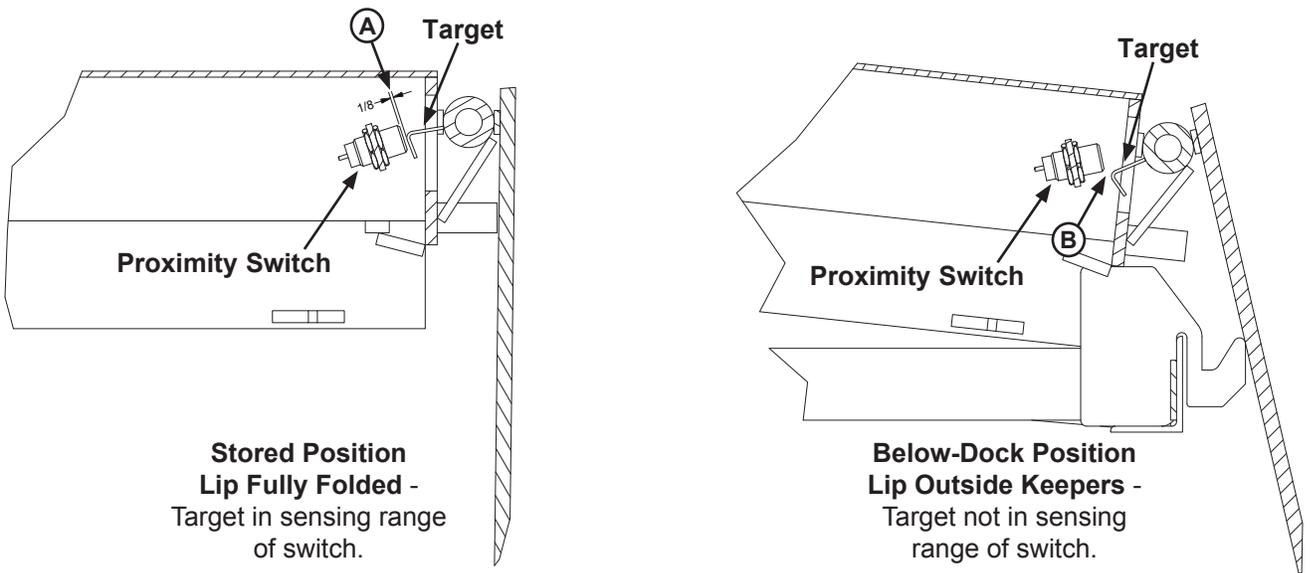

Figure 43
3. Press the RAISE button. The dock leveler should NOT raise. If the leveler did not raise, proceed with step 4. If the leveler did raise, decrease dimension (A), so that the target is in the sensing range of the switch. Typical factory setting for (A) is approximately 1/8". Make adjustments at switch until leveler does not raise when the vehicle restraint is not engaged on transport vehicle RIG bar. See Figure 43.
6. Press the RELEASE button. The vehicle restraint should NOT disengage from the transport vehicle RIG bar or test fixture. If the vehicle restraint did NOT disengage, proceed with Step 7. If the vehicle restraint DID disengage, move the switch farther from the target or bend the target to increase dimension (B) so that the target is not in the sensing range of the switch. Make adjustments at switch and/or target until vehicle restraint does not disengage transport vehicle. See Figure 43.